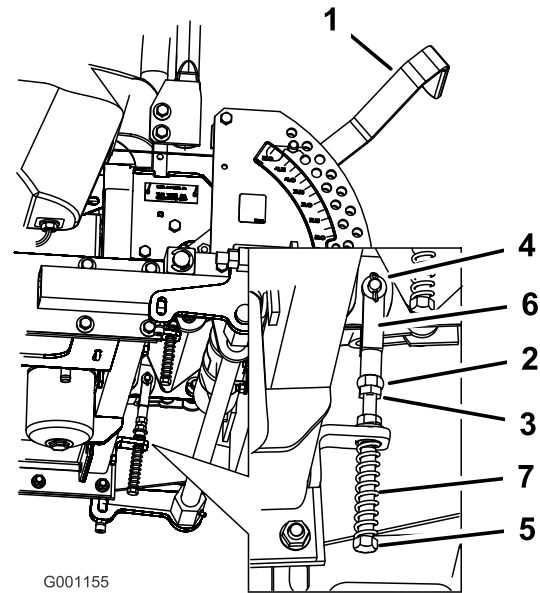

Figure 69
9. Apply slight rearward pressure on the motion control lever, turn the head of the adjustment bolt in the appropriate direction until the control lever is centered in the neutral lock position (Figure 69).
10. Tighten the nut and jam nut (Figure 69).
8. If adjustment is needed, loosen the nut and jam nut against the yoke (Figure 69).